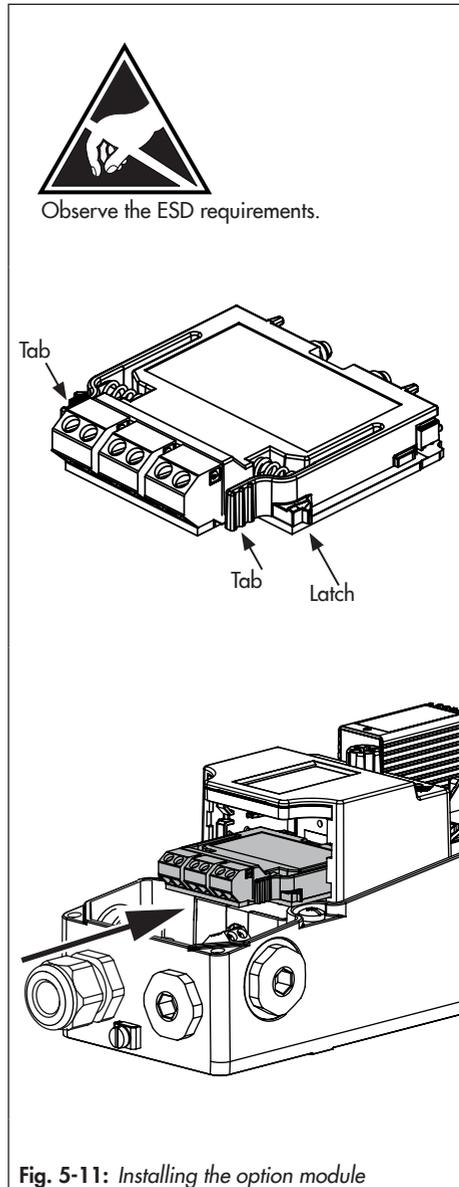

Fig. 5-11: Installing the option module
2. Take hold of the option module at the tabs (see Fig. 5-11).